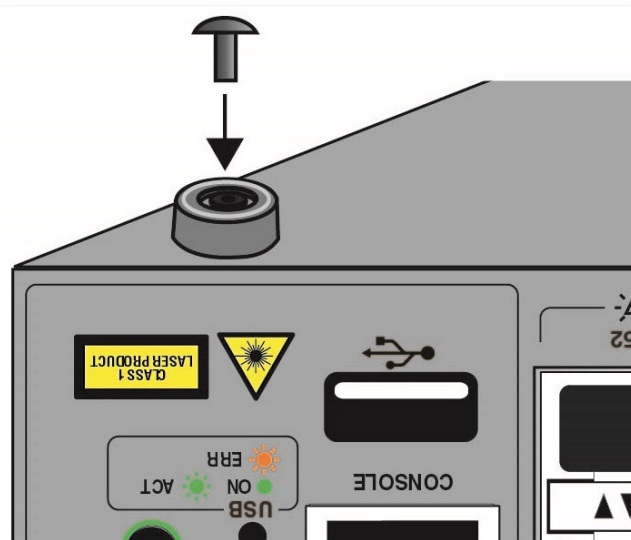

Figure 85. Inserting the Rivet into the Bumper Foot
4. Insert the rivet to secure the bumper foot to the base. Refer to Figure 85.